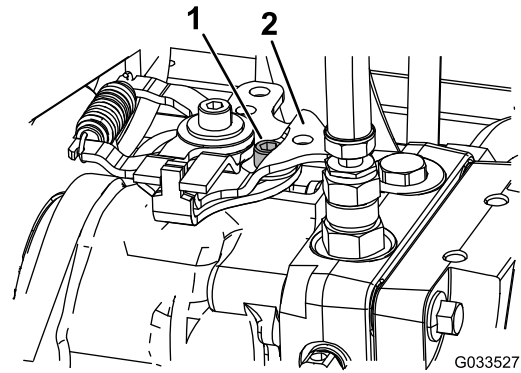

Figure 42
3. At the traction-hydraulic pump (inboard) remove the control linkage from the control arm (Figure 42).